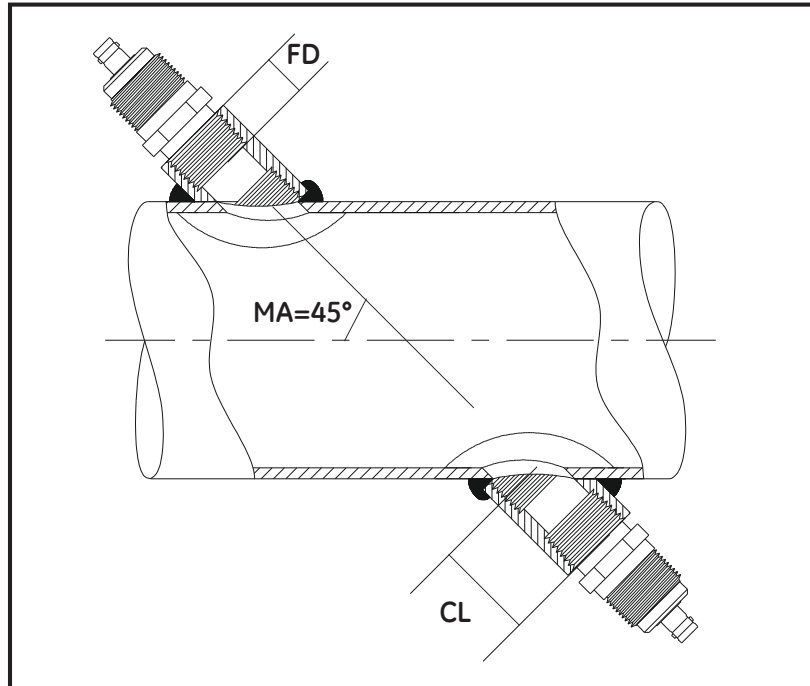

Figure 23: Determining the Pipe Coupling Length
- the pipe inside diameter (ID)
- the wall thickness (WT)
- the installed pipe coupling length (CL)
- the transducers face depth (FD)
- the mounting angle (MA)
Use *Figure 23* below to properly measure the coupling length. Typically, the transducer face is positioned just outside the inside diameter (ID) of the pipe, or slightly retracted inside the coupling.